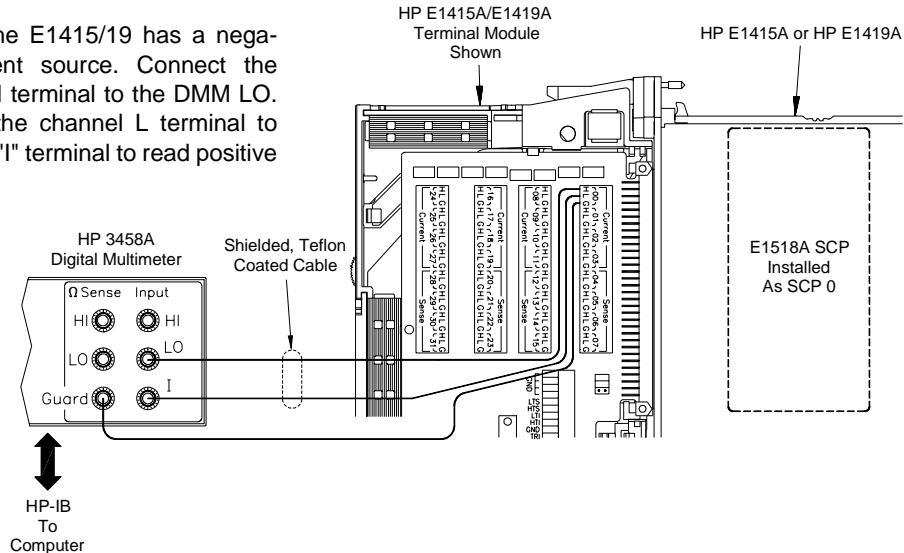

Figure 2-21. Typical Wiring Configurations
- Connect wiring to terminal block and DMM (see Figure 2-21)